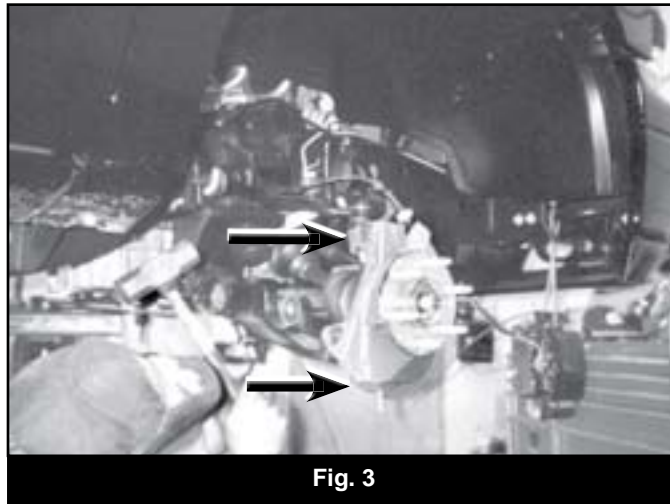

Fig. 3
17. Dislodge the upper and lower ball joints from the steering knuckle by striking the knuckle near the joint with a hammer (Fig. 3). Remove the knuckle assembly from the vehicle.